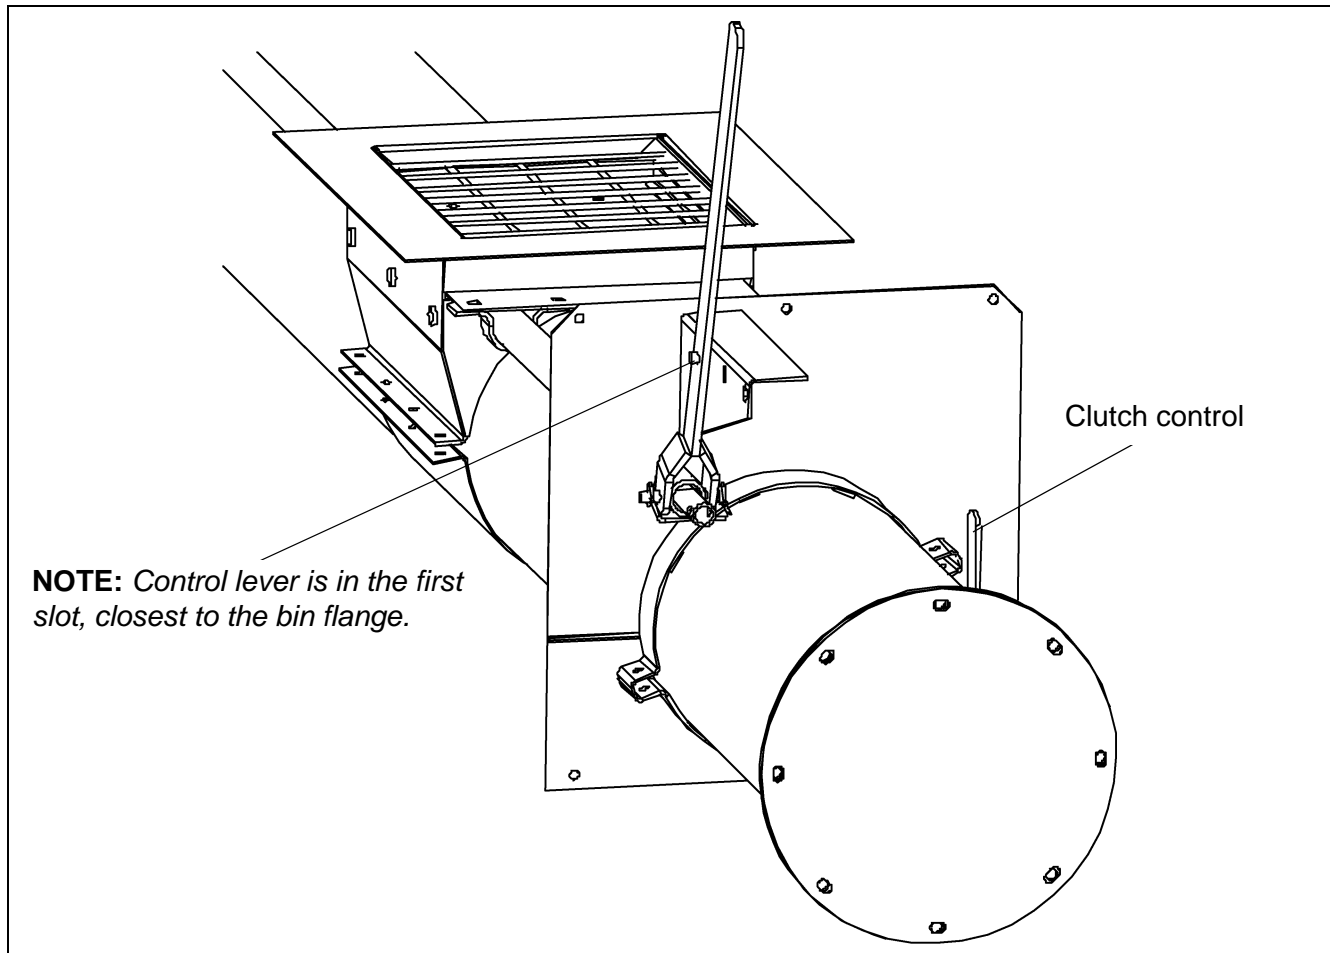
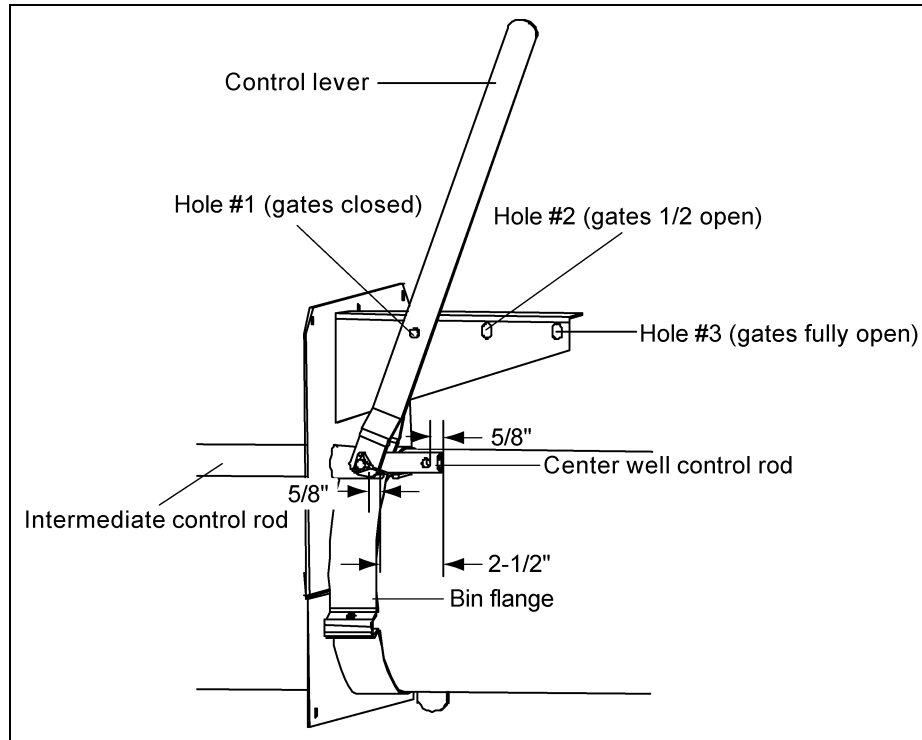

Figure 3P
Figure 3Q
- C. Make sure the center well control gate extends at least 2-1/2" past the end of the intermediate control rod. Cut-off any excess. (*See Figure 3Q on Page 20.*)
- F. Attach the control lever by sliding the safety snap-on pin through the lever and both control rods as shown in *Figure 3P* and *Figure 3Q*.